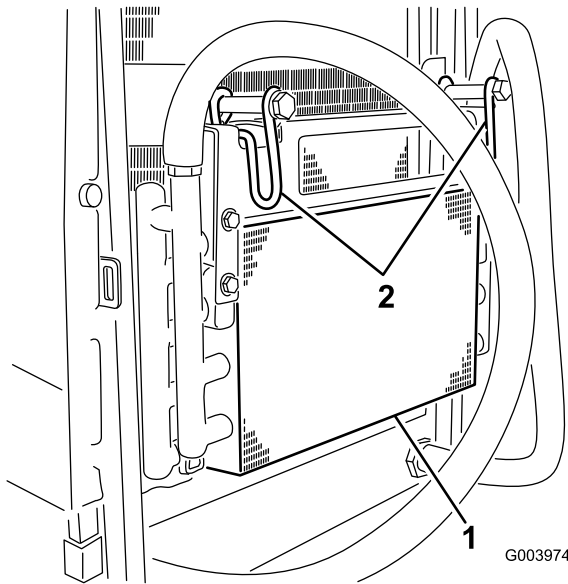

Figure 70
5. Pivot the latches inward to release the oil cooler (Figure 70).